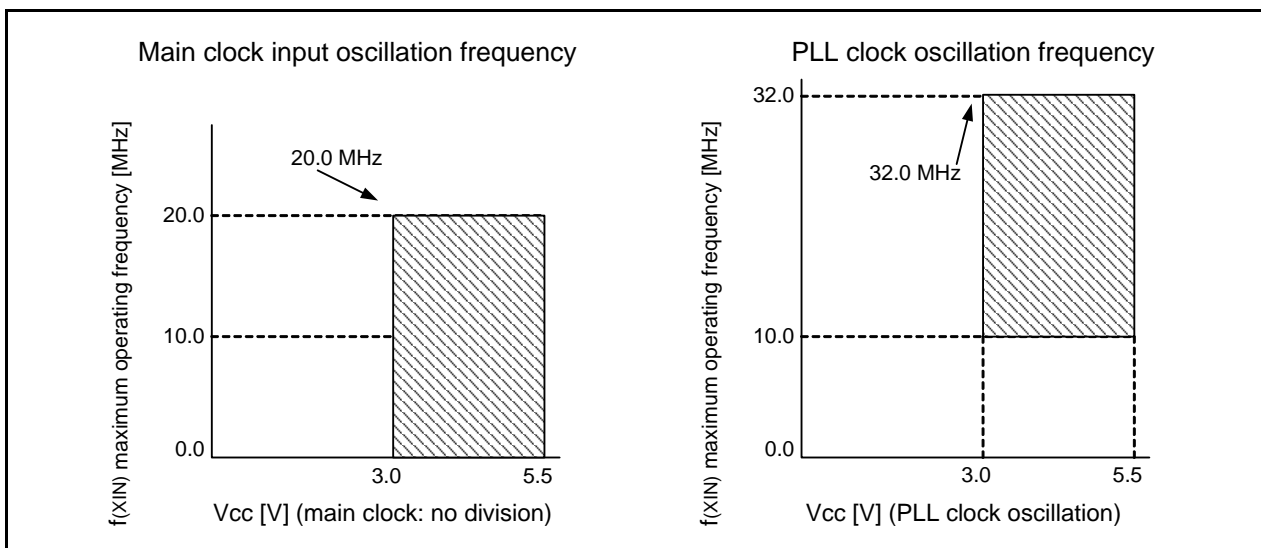

Figure 5.24 Main Clock Input Oscillation Frequency, PLL Clock Oscillation Frequency
2. Refer to Figure 5.24 "Main Clock Input Oscillation Frequency, PLL Clock Oscillation Frequency" for the relationship between main clock oscillation frequency/PLL clock oscillation frequency and supply voltage.